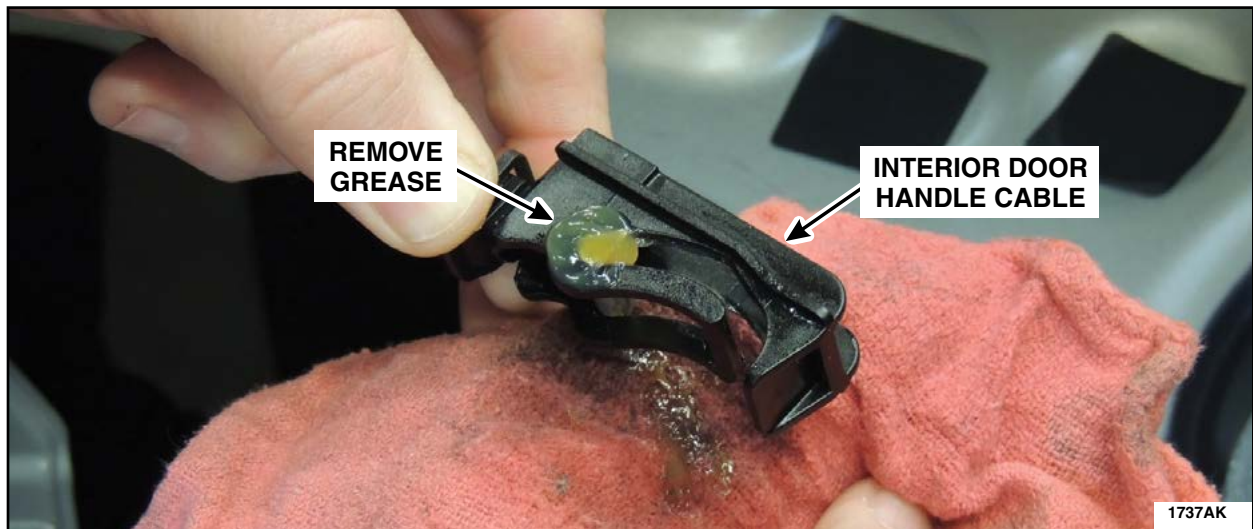

FIGURE 25
10. Using isopropyl alcohol and a clean shop cloth, thoroughly remove grease from the interior door handle cable mechanism. See Figure 25.